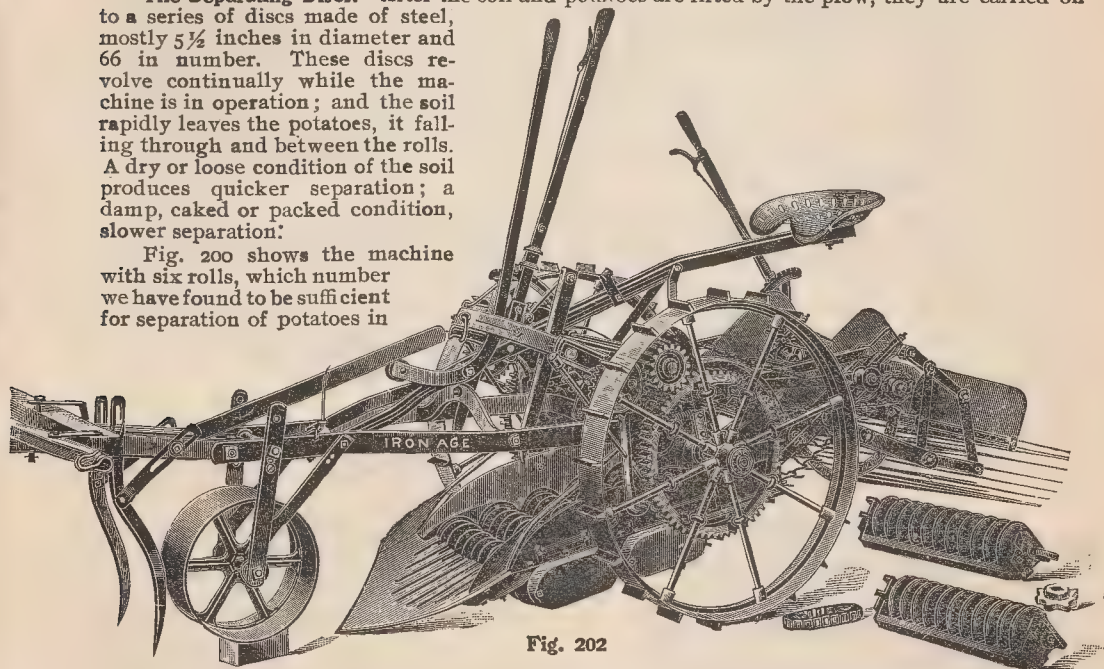

Fig. 202
No. 122—Potato Digger, as shown in Fig. 202 . . .	“ “ 1268 “ . . .
**The Elevator Attachment.** When the soil conditions have reached a state where satisfactory separation cannot be produced with the use of six rolls, it is then necessary to remove the fifth and sixth rolls and apply the elevator attachment (full directions are sent with each attachment). After this attachment is applied the machine is as shown in Fig. 202. When the potatoes and soil have passed over the four rolls and the separation has partly been accomplished, the potatoes and soil yet remaining are raised on the elevator and thrown on to the shaker where further separation is produced. The potatoes are finally delivered in a narrow space, in the middle of the row, or when the separator attachment, as shown in Fig. 231, is applied the vines may be separated from the potatoes.